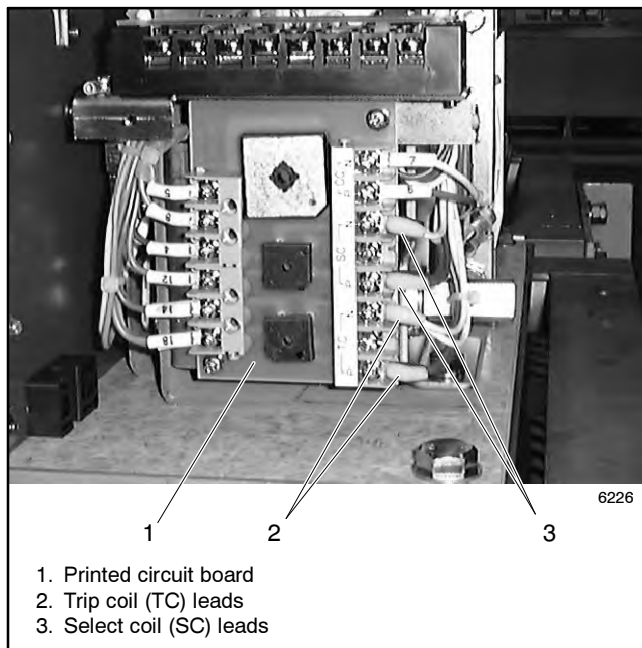
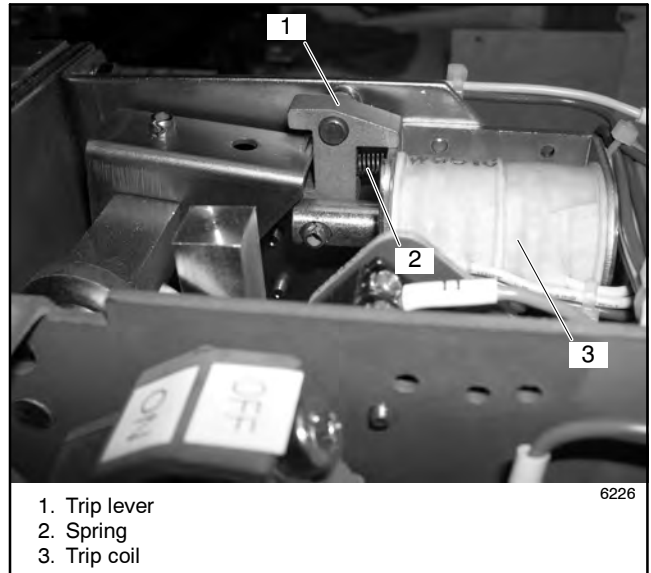
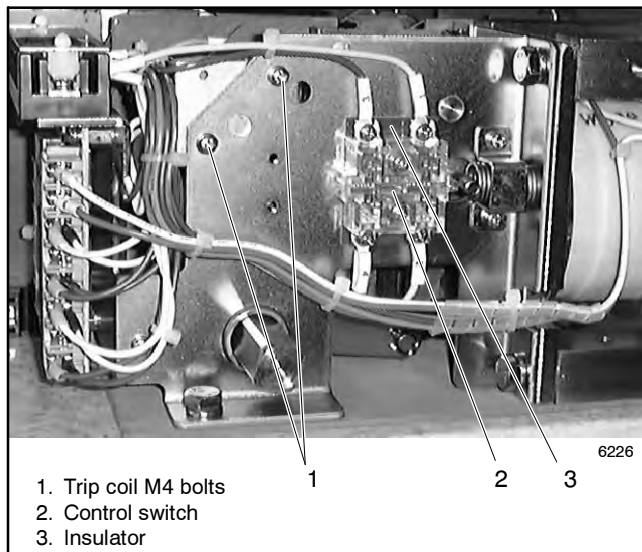

Figure 7-32 Circuit Board Connections
Figure 7-34 Trip Coil
Figure 7-33 Trip Coil Replacement, 600 Amp
1. Note the connections and disconnect the trip coil leads from the printed circuit board and the control switch. See Figure 7-32 and Figure 7-33.
2. Remove two M4 bolts and replace the trip coil. Retain the small spring for the trip coil lever. See Figure 7-33 and Figure 7-34.
1. Note the connections and disconnect the select coil leads from the printed circuit board and the control switch. See Figure 7-32 and Figure 7-33.
1. Note the connections and disconnect all leads to the circuit board. See Figure 7-32.